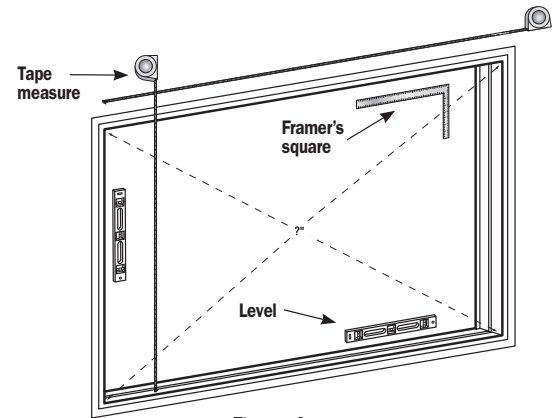

Figure 1
1. Prior to removing the existing window, always check the following measurements to ensure the new unit will fit the opening (**Figure 1**):